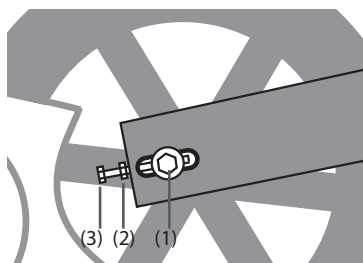

Figure 28
- 2: Loosen the bolts (1) on both sides of the cycle with a 19mm wrench, see figure 28.
- 3: Loosen the nuts (2) on the counter bolt on both sides of the cycle using a 10mm wrench, see figure 28.